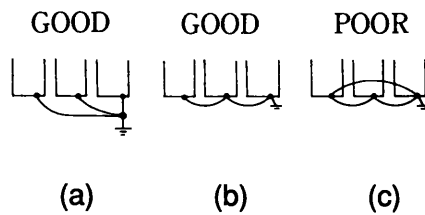

Fig. 3 Grounding of Three VS-606PB3 Units
- (1) Ground resistance should be 100Ω or less.
- (2) Never ground VS-606PB3 in common with welding machines, motors, or other large-current electrical equipment, or a ground pole. Run the ground lead in a conduit separate from leads for large-current electrical equipment.
- (3) Use the ground leads which comply with AWG standards and make the length as short as possible.
- (4) Where several VS-606PB3 units are used side by side, all the units should be grounded as shown in (a) or (b) of Fig.3. Do not form a loop with the ground leads.